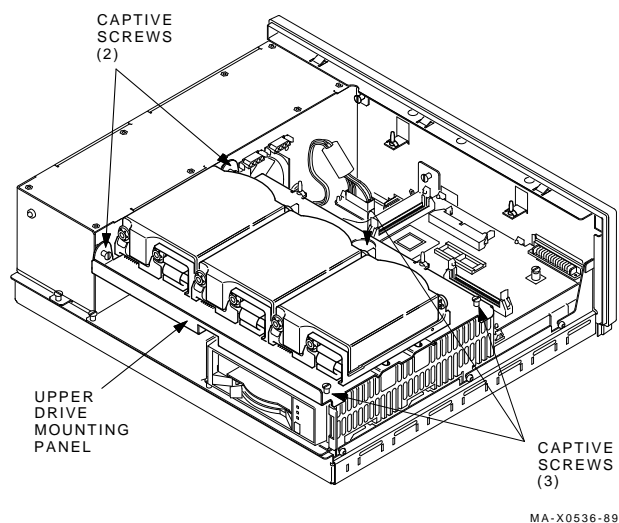

Figure 5-3 Unscrewing the Upper Drive Mounting Panel
2. Unscrew the five screws on the upper drive mounting panel (Figure 5-3) and lift the top panel from the lower panel.